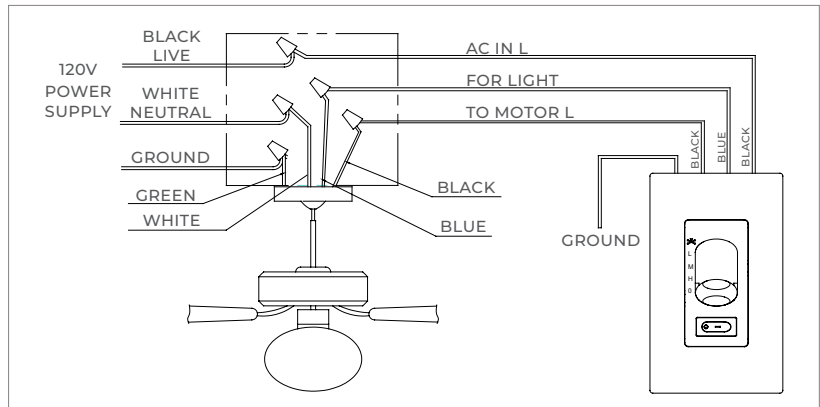

FIGURE 1
C) Make wiring connections and secure with provided wire nuts. (Figure 1)